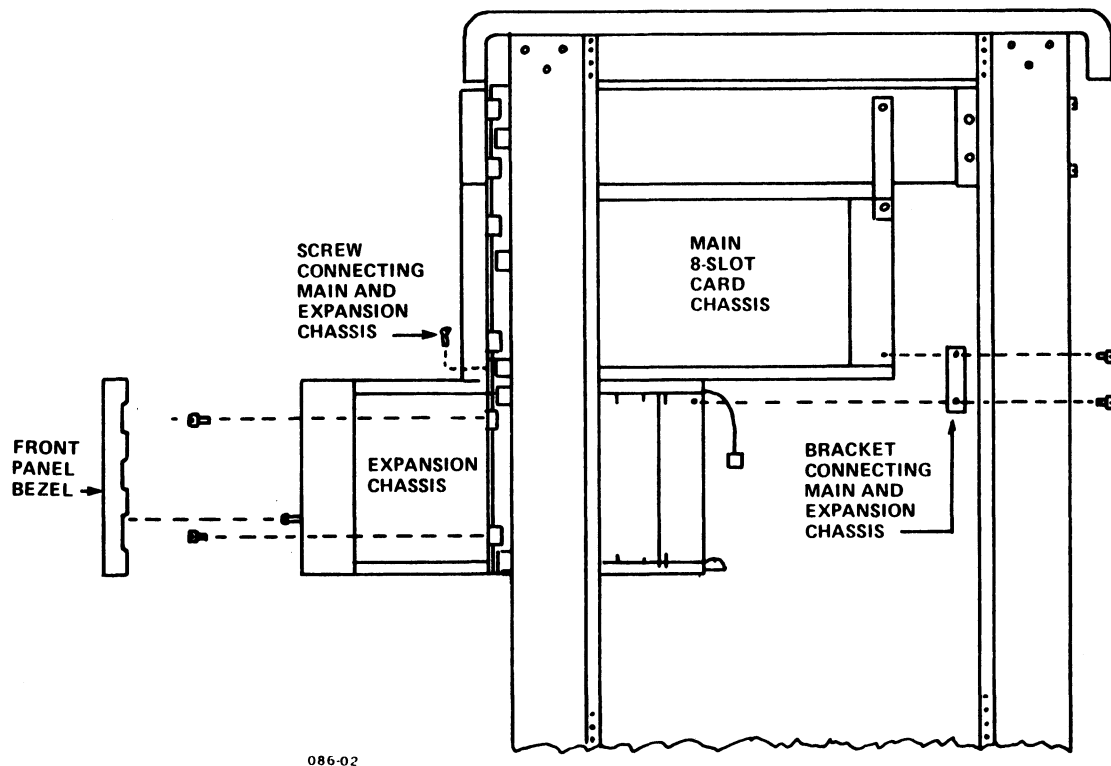

Figure 6-4. Installing the Expansion Chassis
4. Extend the existing U channel on each side of the front of the rack frame by adding a 6-1/2-inch section of U channel as follows (see Figure 6-4):